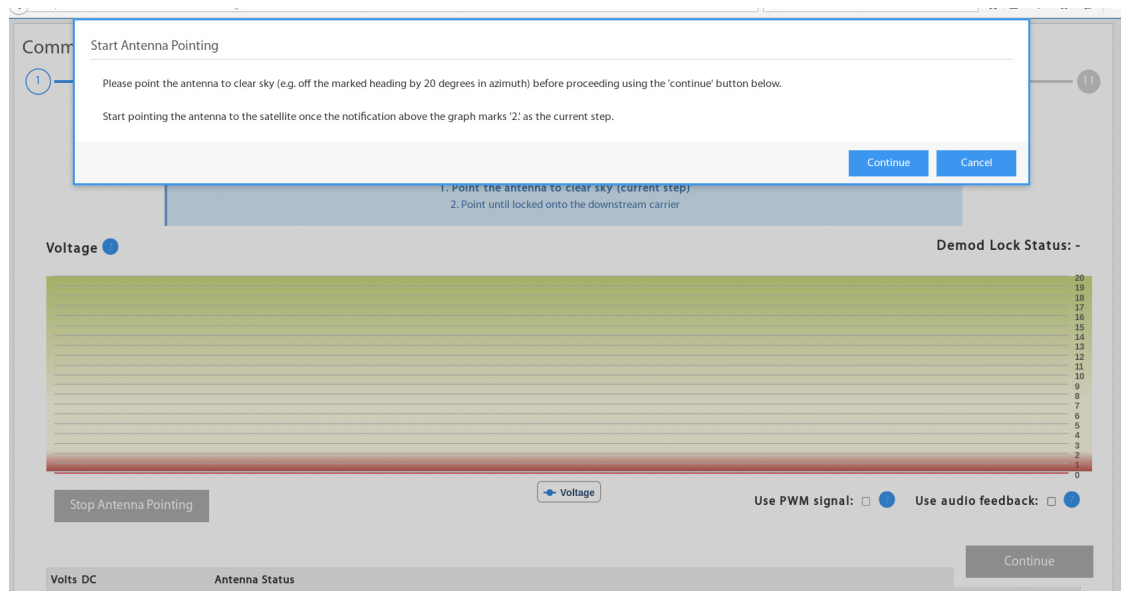

Figure 3-7. Antenna Pointing
3. On the **Fine Antenna Pointing** page (see Figure 3-7), physically position the antenna to point to the satellite.
4. Click **Start Antenna Pointing** to start positioning the antenna. The user is asked to point the antenna to the clear sky (see Figure 3-7).